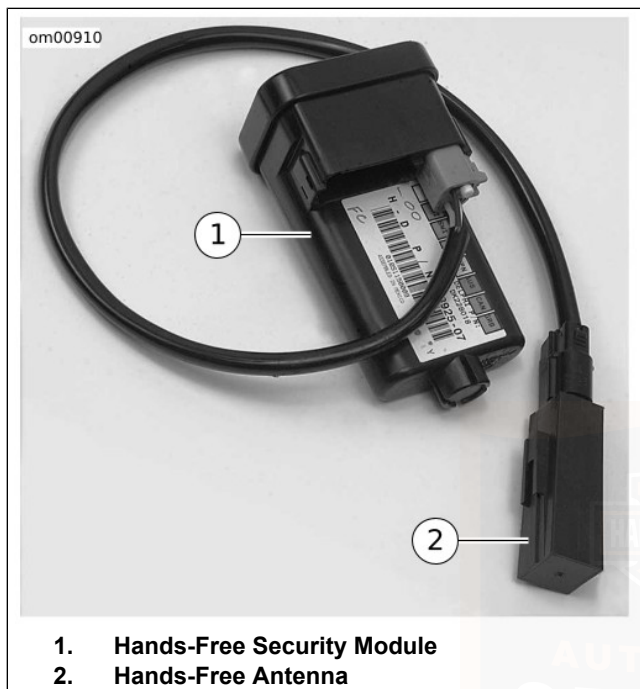

Figure 36. Security Module w/Antenna (shown removed)
See Figure 36. The Harley-Davidson Smart Security System (H-DSSS) consists of a Hands-Free Security Module (HFSM) (1) and a Hands-Free Antenna (2) mounted on the motorcycle, and a Hands-Free Fob **carried** by the rider/passenger.